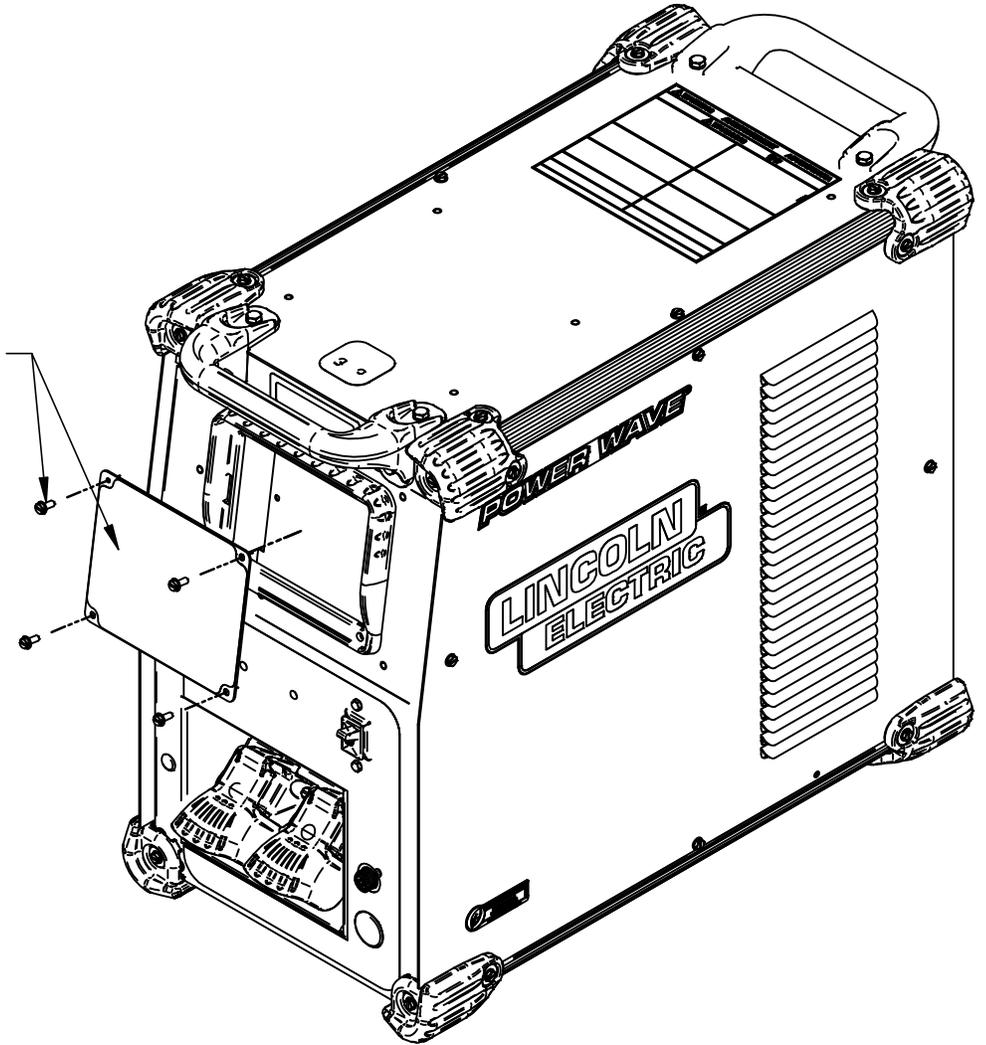

FIGURE 1
3. Remove the UI cover plate by removing the four screws fastening the cover plate to the power source using a 5/16” nut driver or other suitable tool (**Figure 1**). Retain the mounting hardware removed for installing the Power Wave Communication Kit.